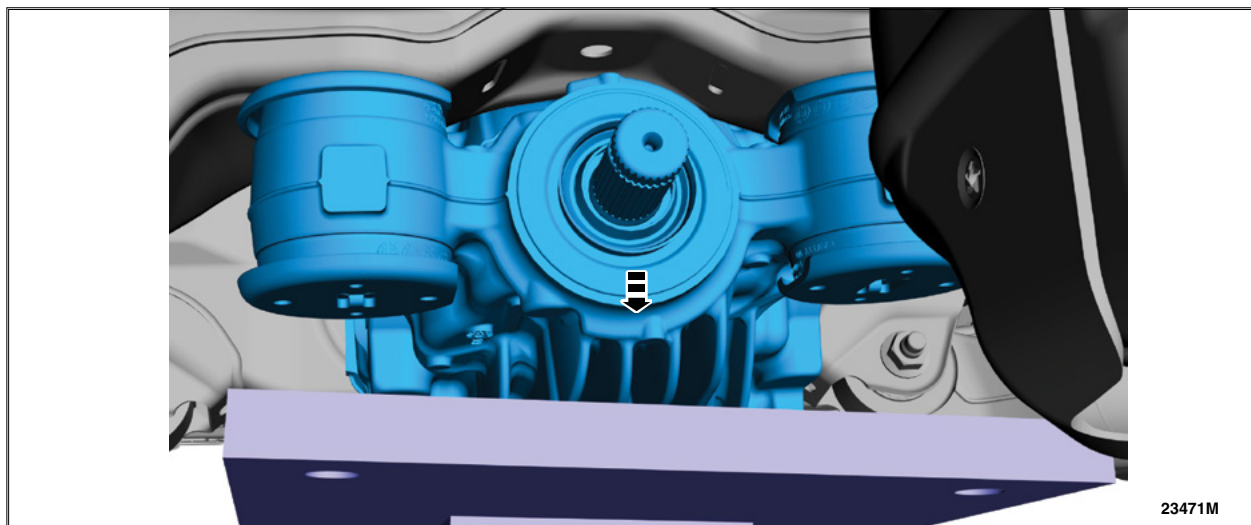

FIGURE 13
19. Gently *lower* down the transmission jack and remove the rear axle assembly. See Figure 13.